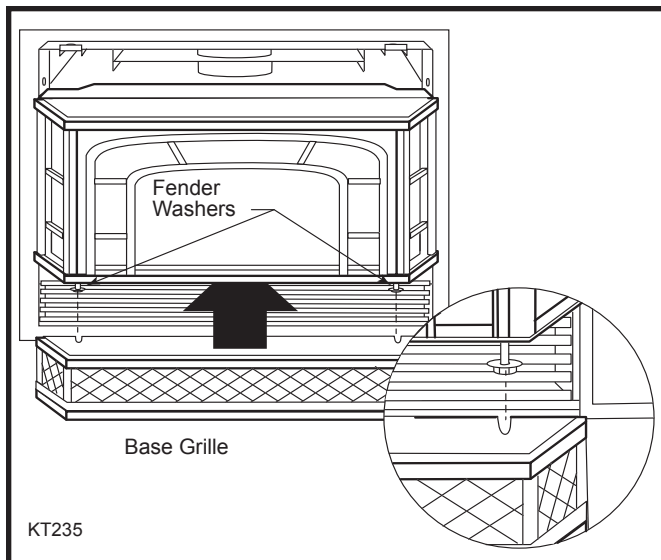

Fig. 4 Install base grille using fender washers.
6. Attach the cast iron base grille to the bottom of the window assembly by engaging the fender washers with the slots on the base. (Fig. 4)